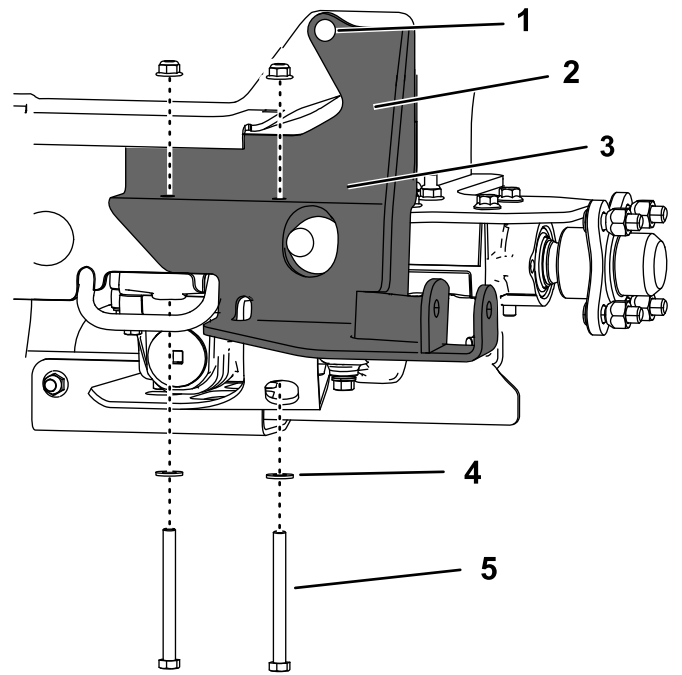

Figure 10
6. Install the lower mount bracket to the transmission using the 2 nuts that you removed, 2 flat washers, and 2 bolts (3/8 x 4 inches) as shown in Figure 10.